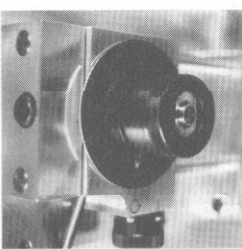

Figure 24
12. Release the locking arm and bring the slide block back to the key load position (Fig. 24). Loosen the chuck closer to release the key.